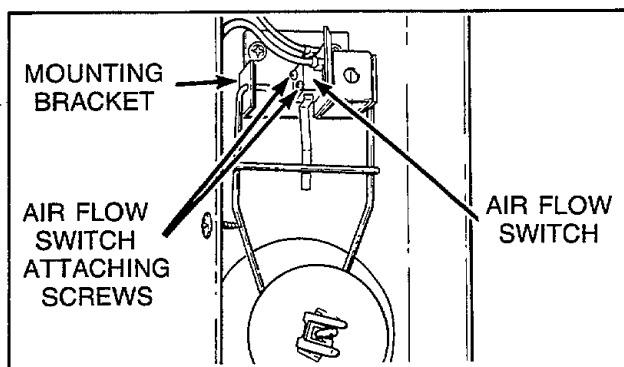

Figure 21
18. **AIR FLOW SWITCH** (Refer to Figure 21)